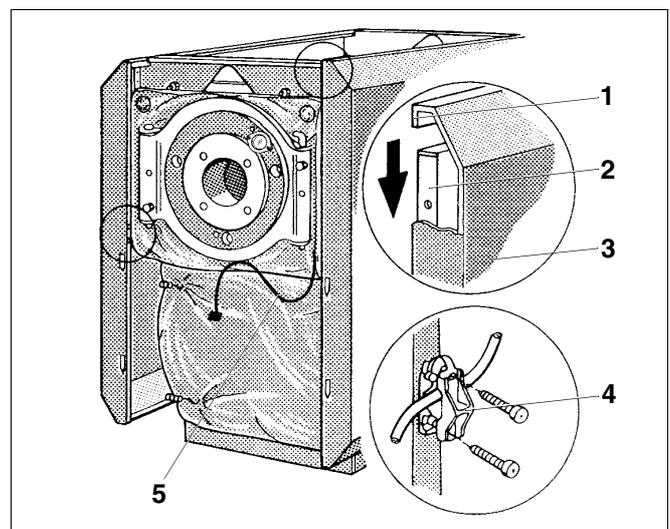

Fig. 10 Fit the strain relief
- Lift the side panels (Fig. 10, **item 3**) and at the top hook their angle (Fig. 10, **item 1**) into the side rails (Fig. 10, **item 2**) and push down.
- Push the ends of the insulation mats behind the side panel angle (Fig. 10).
- Insert the burner cable (Fig. 10, **item 4**) strain relief with both pins into the holes of the l.h. or r.h. side panel angle.
- Trim the burner cable (Fig. 10, **item 5**) to a suitable length, insert it into the strain relief, close the tabs and secure the strain relief with two self-tapping screws.